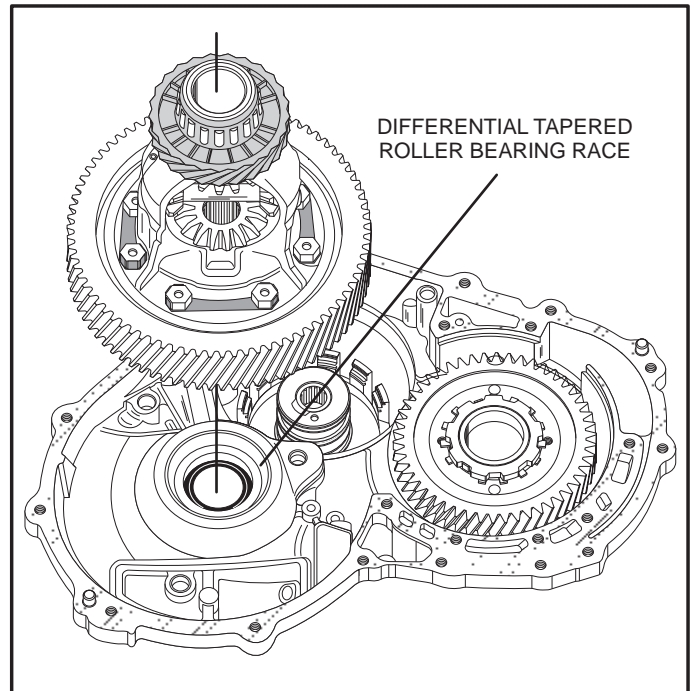

Figure 179
69. Flip the transaxle housing over then coat the differential tapered roller bearings with a small amount of ATF and place the differential carrier into the case as shown in Figure 179.